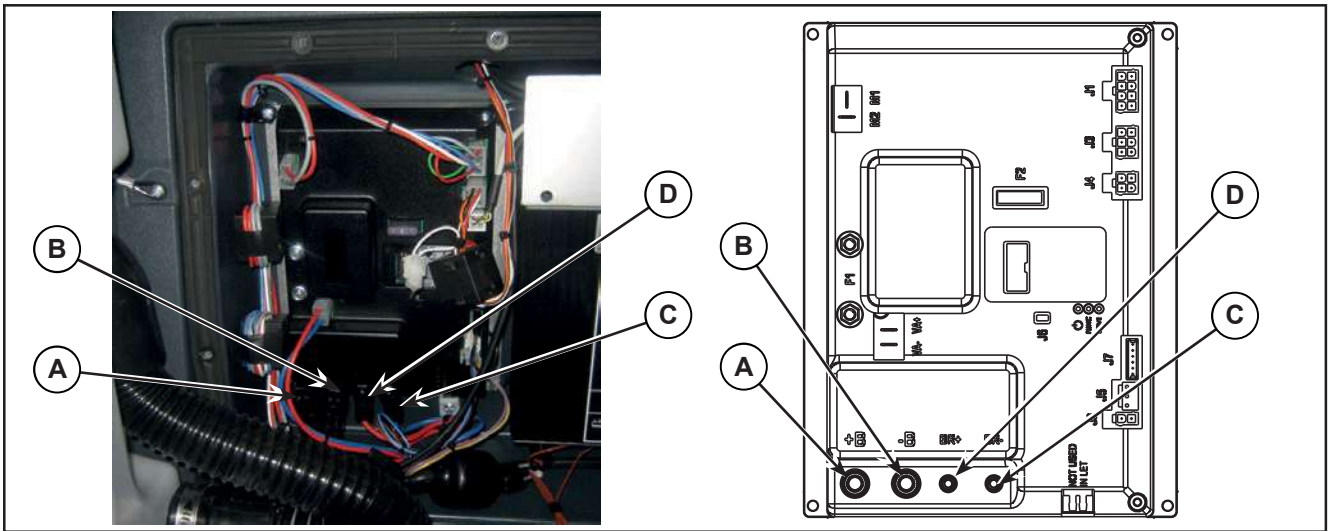

Figure 11:
4. Disconnect the following connections sequentially (Figure 11):
- (A) and (B) Main machine controller power supply connection (B+) and (B-).
- (C) and (D) Brush motor connection (BR+) and (BR-).